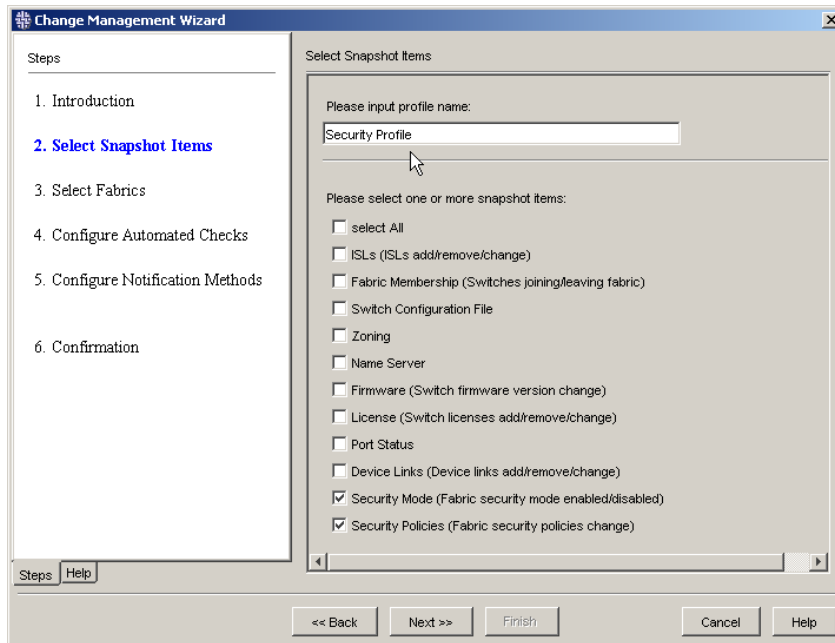

Figure 134 Select snapshot items
4. Enter a profile name and select the check boxes next to the parameters you want to monitor for changes (see Figure 134).
The Select Snapshot Items dialog box opens (see Figure 134 on page 210).
The Select Snapshot Items dialog box opens (see Figure 134 on page 210). The name of the Change Management profile you selected in step 2 is in the Please input profile name dialog box.